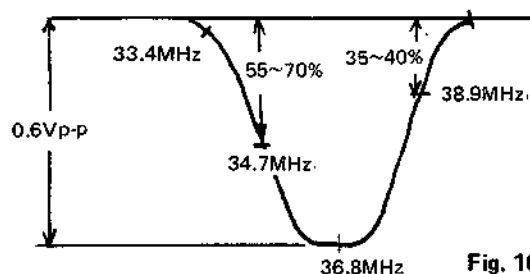

Fig. 10
1. Align T1 and T101 so that the wave form is illustrated in Fig. 10.